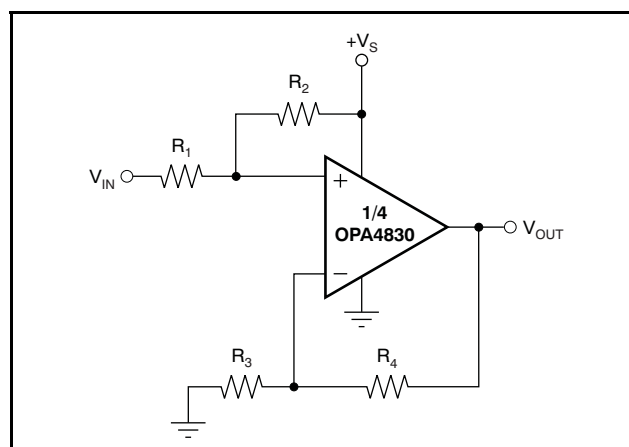

Figure 75. DC Level-Shifting
Figure 75 shows a DC-coupled noninverting amplifier that level-shifts the input up to accommodate the desired output voltage range. Given the desired signal gain (G), and the amount V_{OUT} needs to be shifted up (ΔV_{OUT}) when V_{IN} is at the center of its range, Equation 1 and Equation 2 give the resistor values that produce the desired performance. Assume that R_4 is between 200Ω and $1.5k\Omega$.